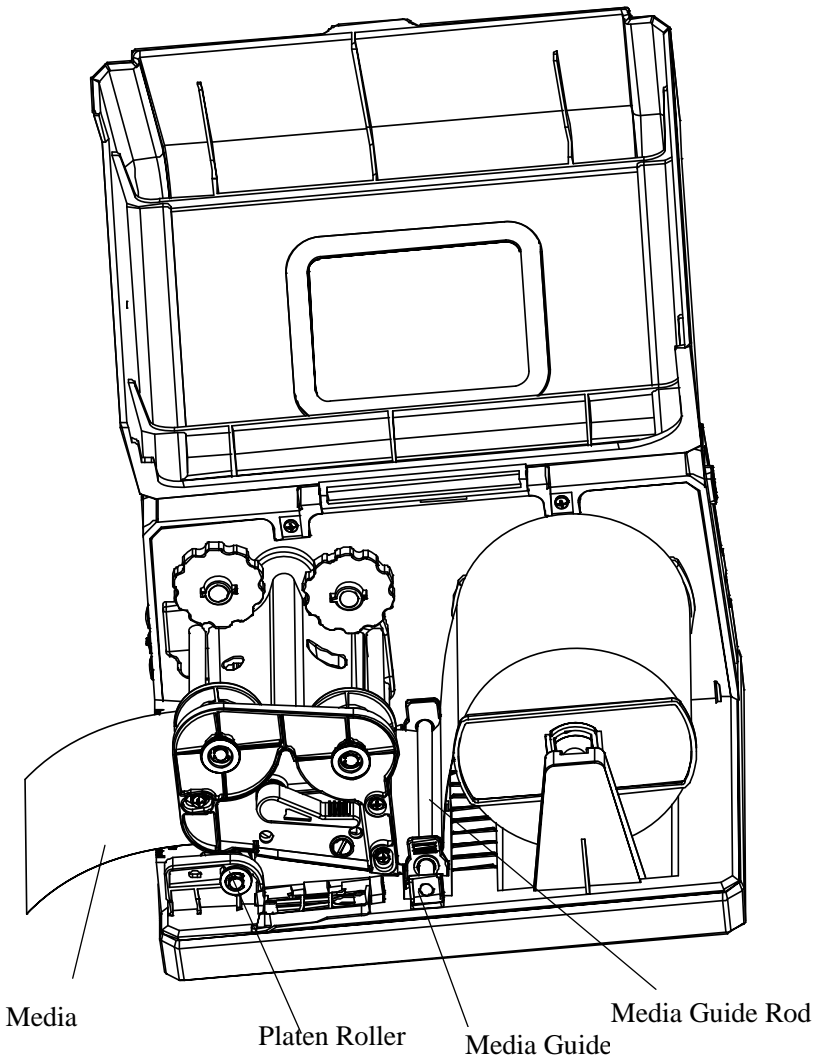

Figure 6-3
8. Slide the Media Guides to the edge of the media; don't squeeze the labels, make sure they remain flat (see Figure 6-3).